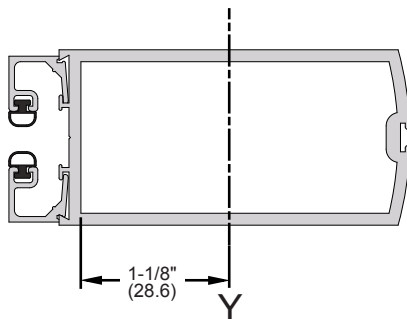

FIG. 1
2. Mark the stile centerlines 1-1/8" (28.6) from the inside edge of the stile. (**Fig. 1**)